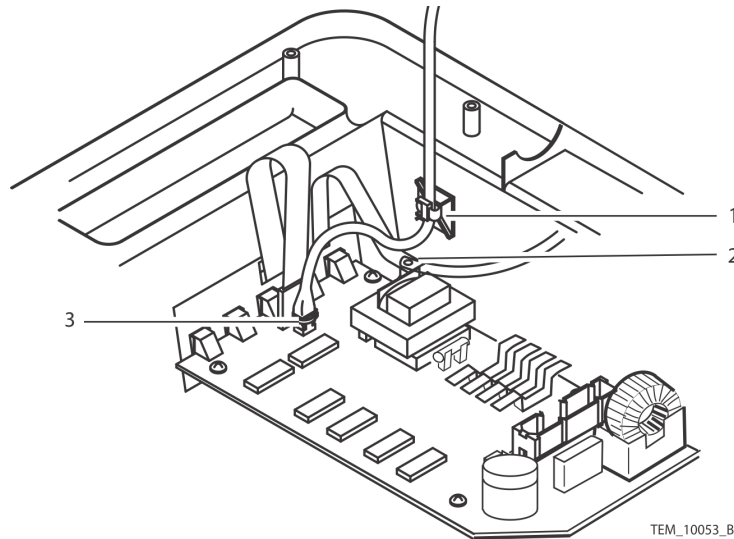

Figure 64. Cable Disconnect
15. Cut the cable tie. See Figure 64, item 1.
16. Remove the ground screw. See Figure 64, item 2.
17. Disconnect the thermistor cable connector. See Figure 64, item 3.